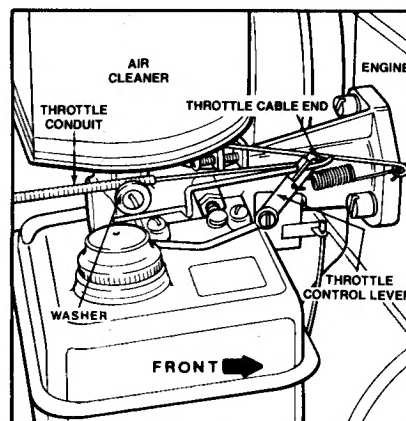

FIG. 2
1. Remove thumb screw on top of air cleaner and remove air cleaner from carburetor (Fig. 2).
3. Place throttle cable end through throttle control lever (Fig. 2).